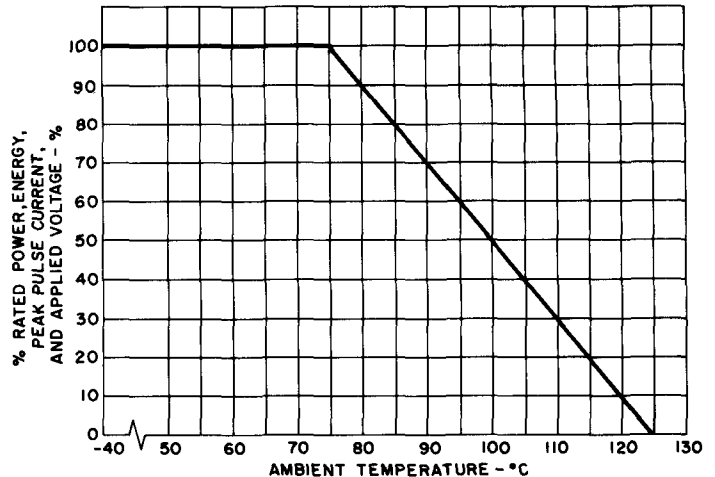

FIGURE 3 % RATED POWER, ENERGY, PEAK PULSE CURRENT AND APPLIED VOLTAGE (AC OR DC) VS T_A
- (1) Steady State defined as the normal input conditions existing when no transients are present.
- (2) Applied Voltage is that voltage which appears across the varistor terminals when no transient is present. High line voltage conditions should be included in the value for Applied Voltage used to select the correct model. (i.e., applications for 117 V_{RMS} should use ratings of 129 V_{RMS} or more.)
- (3) For AC applications a sinusoidal Applied Voltage is assumed to be the normal input condition. If Applied Voltage is non-sinusoidal, Recurrent Peak Applied Voltage values should be used to select correct model.
- (4) See Figure 3.